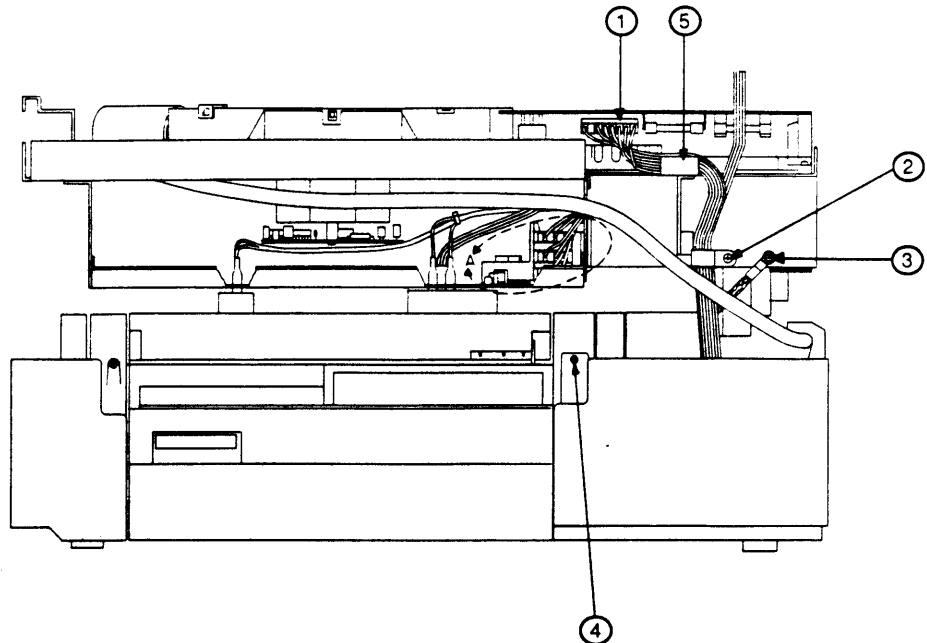

FIGURE 2-38
4. Disconnect the cable from J501 on the DC Power Supply/Motor Drive PCB (Figure 2-38, #1).
5. Remove the plastic clamp that holds the cables from the last two steps (Figure 2-38, #2).
6. Disconnect the silver-braided ground wire from the upper main body (Figure 2-38, #3).